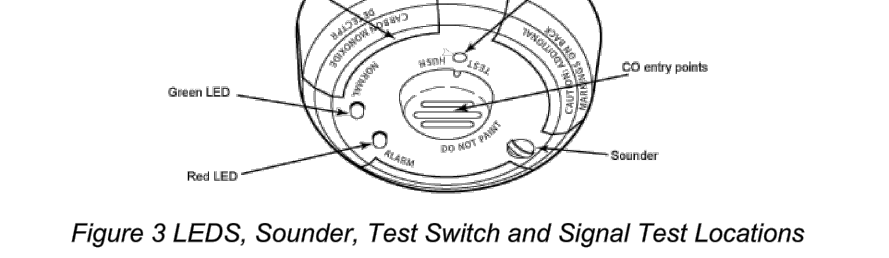

Figure 3 LEDs, Sounder, Test Switch and Signal Test Locations
- 1. Locate the recessed detector test switch located on the detector cover (Figure 3). 2. With a small screwdriver, depress and hold the recessed "TEST" switch for approximately 2 seconds.
Test Switch Functions: This switch has multiple functions and is located in an opening on the detector housing as shown in Figure 3. To activate the switch insert a small screwdriver or Allen wrench (0.18" max.) into the test switch opening.
Signal Test: The last must be performed while the smoke detector is held in its intended mounting location. Install a battery in the smoke detector. Initiate the test by placing a strong magnet on the smoke detector housing at the location shown in Figure 3.
Signal Test: The last must be performed while the CO detector is held in its intended mounting location. Install a battery in the CO detector. Initiate the test by placing a strong magnet on the CO detector housing at the location shown in Figure 3.